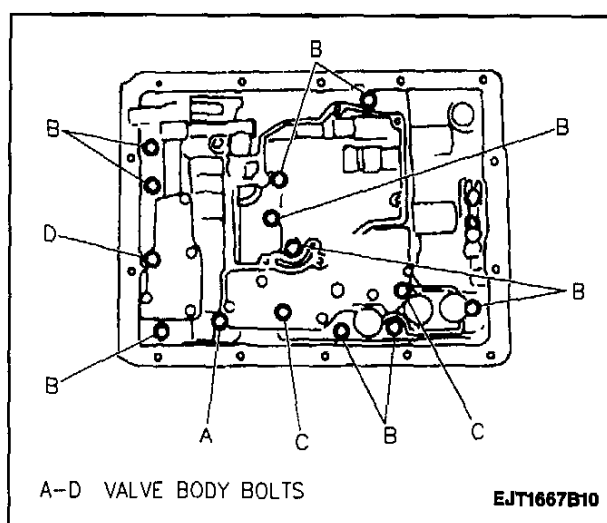

Figure 117—Valve Body Bolt Location (03-72LE, 4-Speed)
8. Fifteen valve body-to-case bolts according to length (Figure 117).